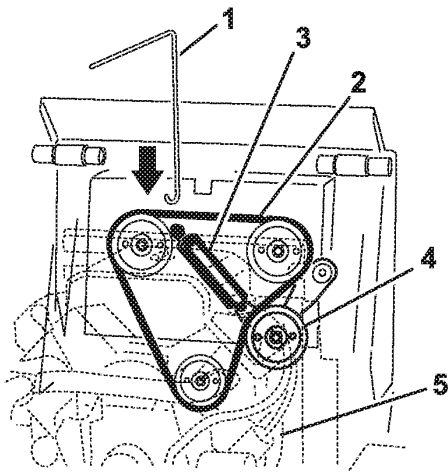

Figure 43
3. Connect the hook on the spring removal tool to the hook on the idler pulley spring, and disconnect the spring from the stud as illustrated in Figure 43.